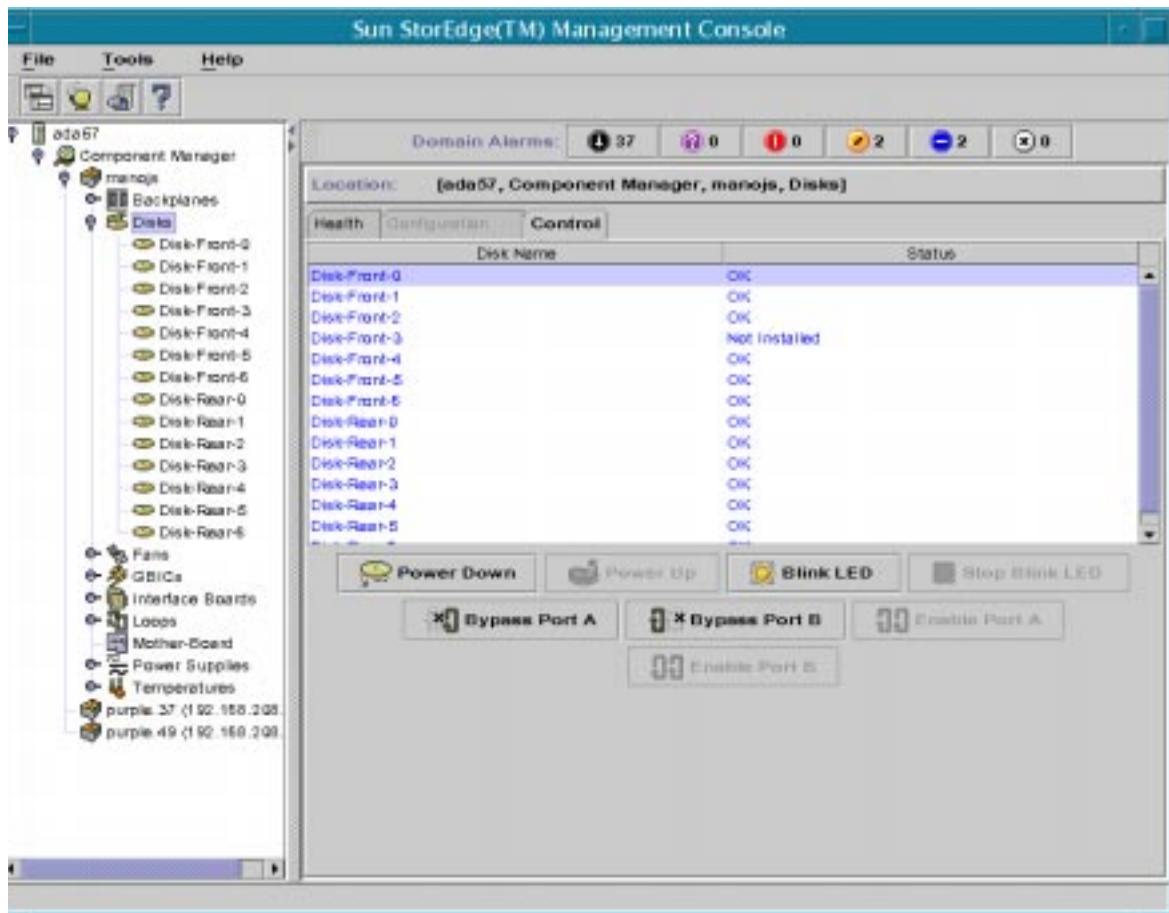

FIGURE 5-1 StorEdge A5x00 Disk Control Window
3. Select the Control Tab (see FIGURE 5-1).